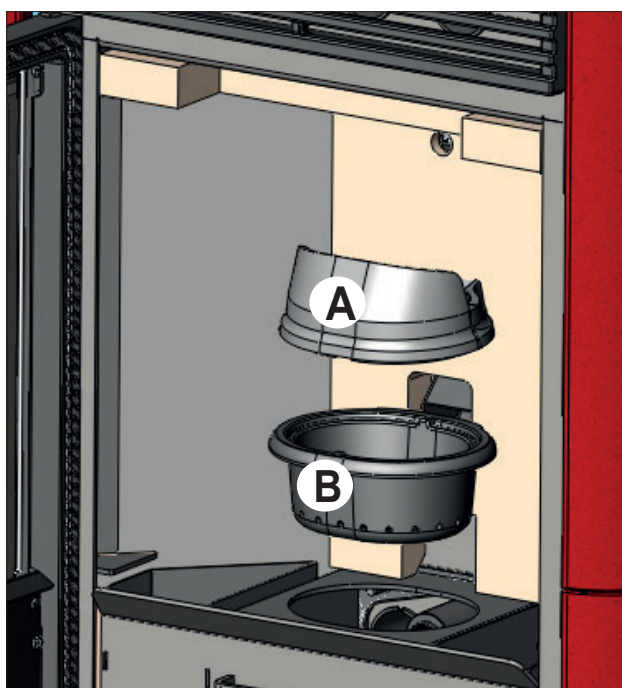

fig. 1
After normal cleaning, INCORRECT attachment of the upper part of the crucible (A) (fig. 1) with the lower part of the crucible (B) (fig. 1) can compromise stove functioning.